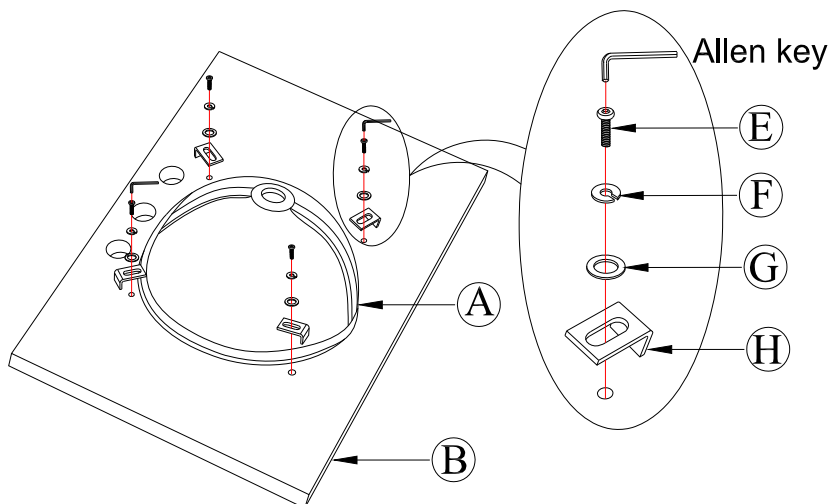

Fig. 1
1. Carefully turn the marble countertop (B) up on a carpet or scratch-free surface. Position the basin (A) over the marble top cut-out. Make sure the basin is centered to the marble top cut-out. Attach basin to marble top by placing L shape brackets (H) and insert bolts (E) with spring washers (F) and flat washers (G). Tighten by Allen key provided. But **DO NOT** over tighten. Repeat for the other basin. (Fig. 1)